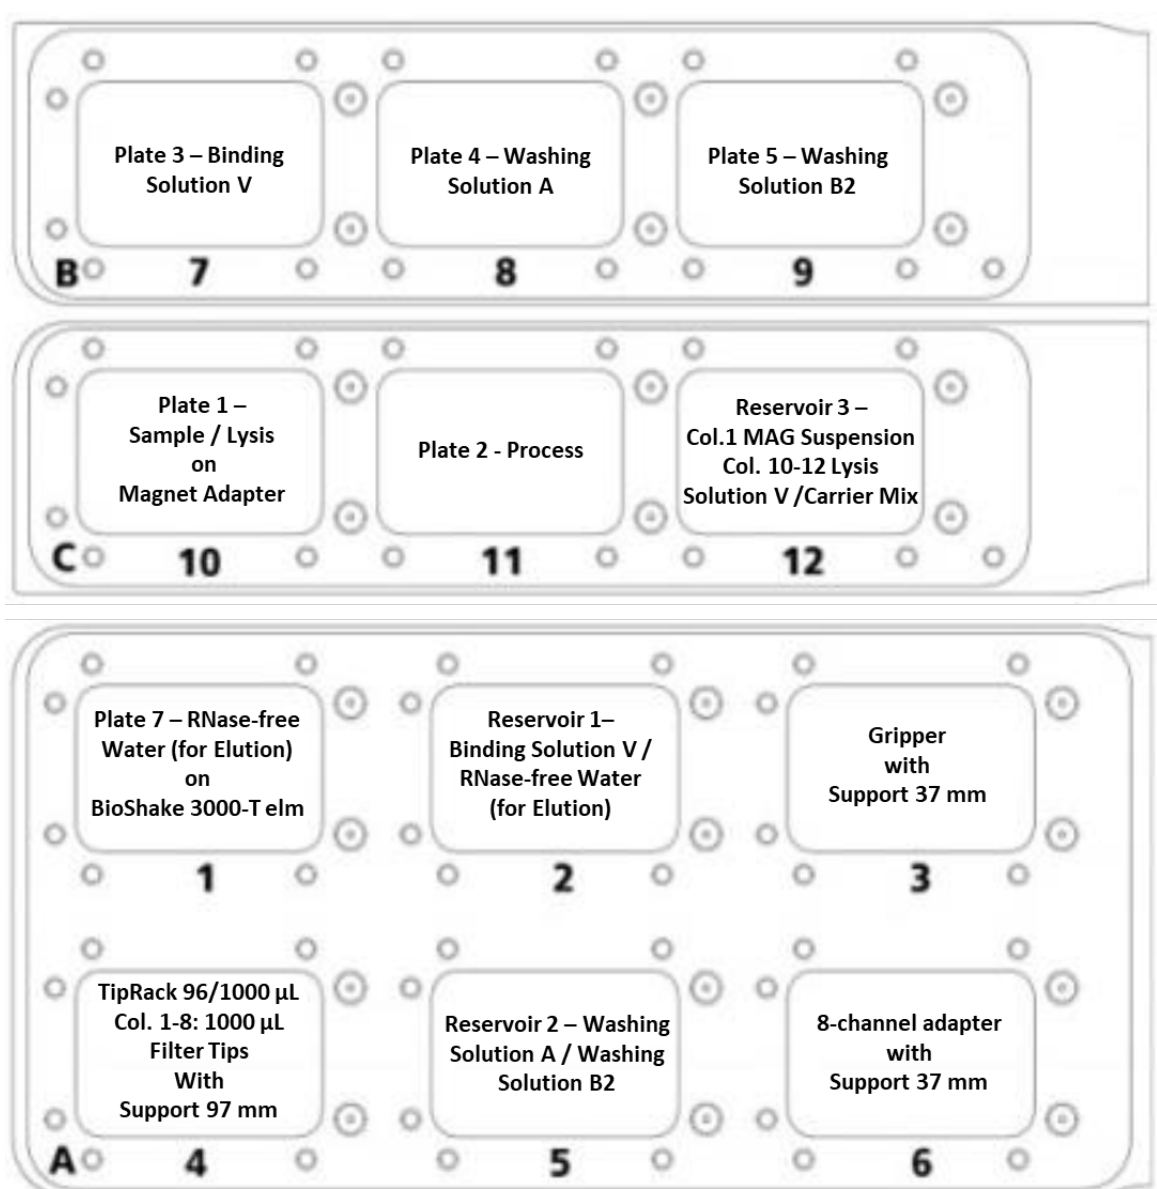

Figure 19: Deck layout for starting the prefilling protocol for 400 µL sample volume.
4. Transfer the content of one bottle (70 mL) "**RNase-free Water (for Elution)**" into the **right** side of the 2 column reservoir labeled "Reservoir 1 - Binding Solution V / RNase-free Water (for Elution)". Place the filled reservoir into the CyBio FeliX on position 2 (→ see Figure 19).
6. Transfer the content of one bottle (120 mL) "**Washing Solution B2**" into the **right** side of the 2 column reservoir labeled "Reservoir 2 – Washing Solution A / Washing Solution B2". Place the filled reservoir into the CyBio FeliX on position 5 (→ see Figure 19).
8. Transfer 15 mL of the prepared **Lysis Solution V / Carrier Mix** (→ see "Preparing Lysis Solution V / Carrier-Mix, p. 25, p. 42) in column A10, 15 mL in the column A11 and 15 mL in the column A12 of the reservoir labeled "Reservoir 3 – MAG Suspension / Lysis Solution V / Carrier Mix ". Place the filled reservoir into the CyBio FeliX on position 12 (→ see Figure 19).
10. Place the CyBio TipRack 96/1000 µL into the CyBio FeliX on position 4 (→ see Figure 19).
11. Place the 8-channel adapter (Head R 96) with the support 37 mm into the CyBio FeliX on position 6 (→ see Figure 19).
12. Place the empty, labeled plates on the CyBio FeliX deck according to the deck layout for the prefilling protocol for 400 µL sample volume (→ see Figure 19).